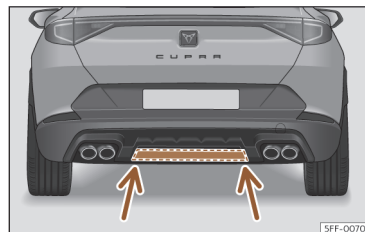

Fig. 83 Lower sensor detection area.
- If the rear lid fails to open, repeat the procedure after a few seconds. The detection zone of the lower sensor may not have been reached >>> **Fig. 83**.